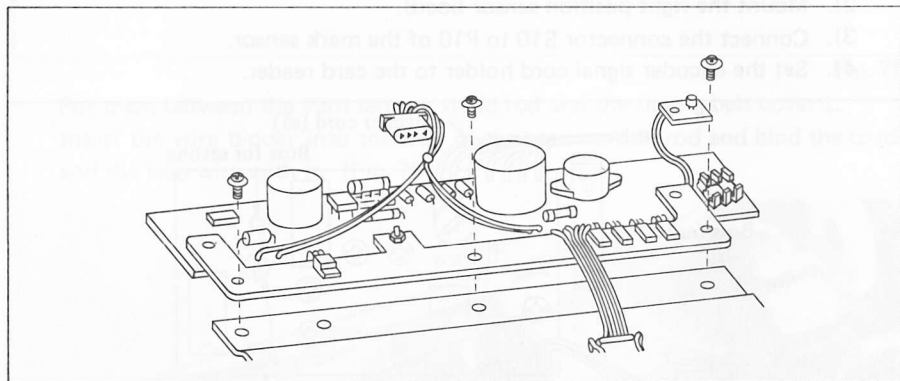

Fig. 72
5. Remove the three screws and take off the power supply P.C.B. (Fig. 72)